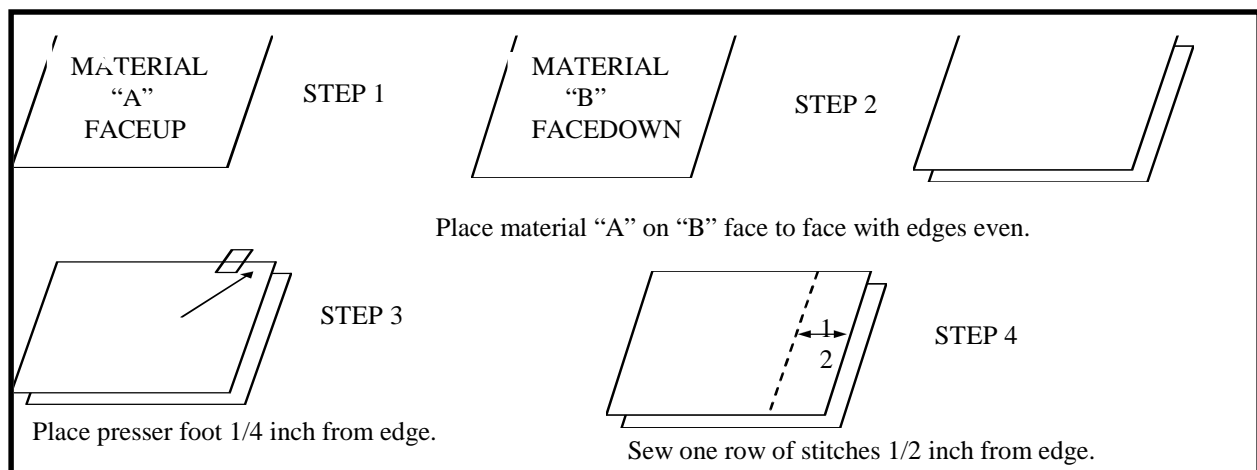

Figure 3-8. Simple seam
a. Plain or Simple. The plain or simple seam (Figure 3-8) is the easiest seam to sew. It uses one row of stitches to join two pieces of cloth. This seam is used when a finished seam edge is not required, such as open side seams that must be mended. It is also used to mend straight and L-shaped tears when little or no material is missing. To make a simple seam--
- (1) Place the material together face to face (all four edges square).
- (2) Mark the edge of the material 1/2 inch from the raw edge on the 8-inch length.
- (3) Place the material on the machine so that the mark is in a vertical position.
- (4) Start at the top of the marking on the edge of the material and stitch down to the bottom edge of the material. Allow a 1 inch tack stitch at both ends of the material not less than 7/8 inch or more than 1 1/8 inches.
- (5) Press the seams open with an iron.